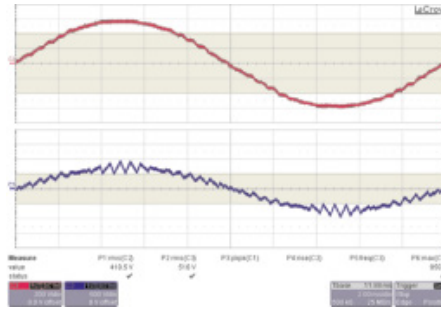

Fig.3: waveform with LCL filter
4. LCL filter: this reduces high-frequency current ripples to a minimum to prevent overheating of electronic equipment connected to the mains (see Fig. 3).